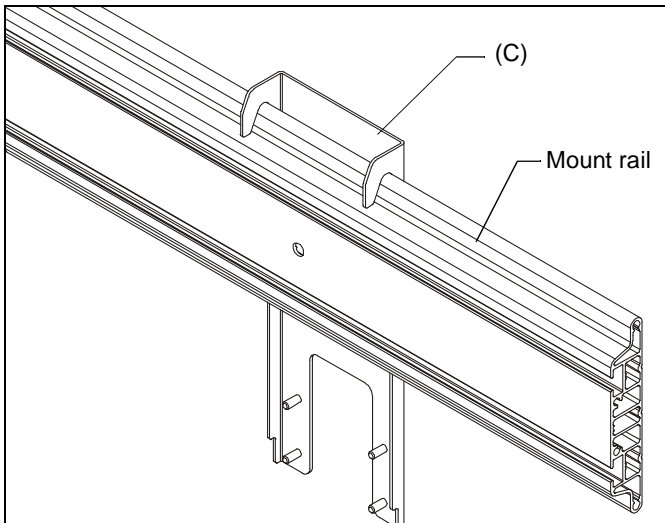

Figure 1
1. Lower hanging bracket (C) onto mount rail, placing hooks over mount rail. (See Figure 1)